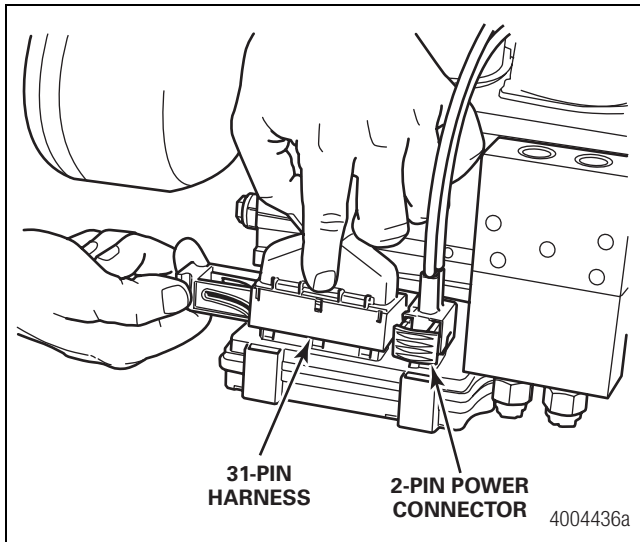

Figure 1
6. Open the latches and remove the 31-pin and 2-pin connectors from the ECU. Figure 1.